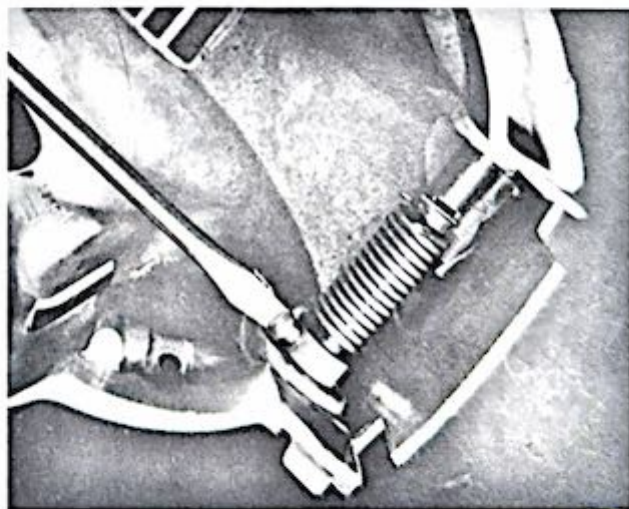

Figure 1-60. Removing screw from spring bushing
(3) Remove the screw (9) from the spring bushing as shown in figure 1-60 and remove the spring clip (10, fig. 1-3) from the spring shaft.
(4) Pull the spring bushing, spring yoke,
the shouldered screw (9) (see figure 1-60). Hook the looped end of the handle spring on the shouldered screw.